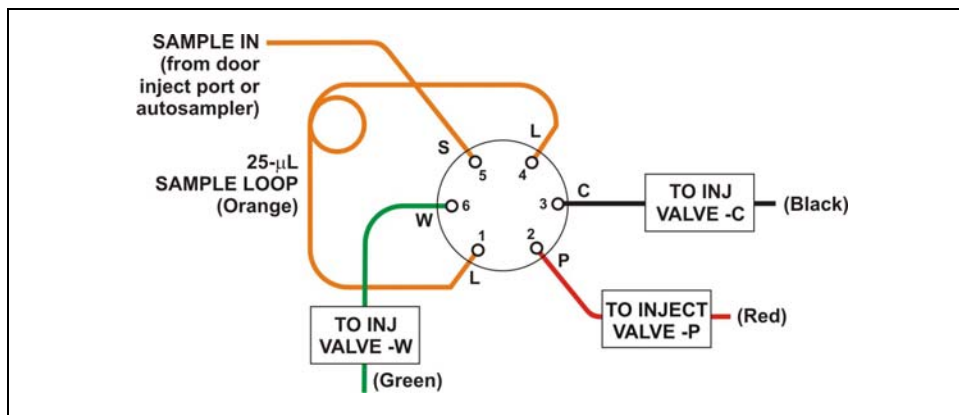

Figure 5-10. Injection Valve Plumbing
5. Reconnect all liquid lines to the injection valve (see Figure 5-10) or auxiliary valve.